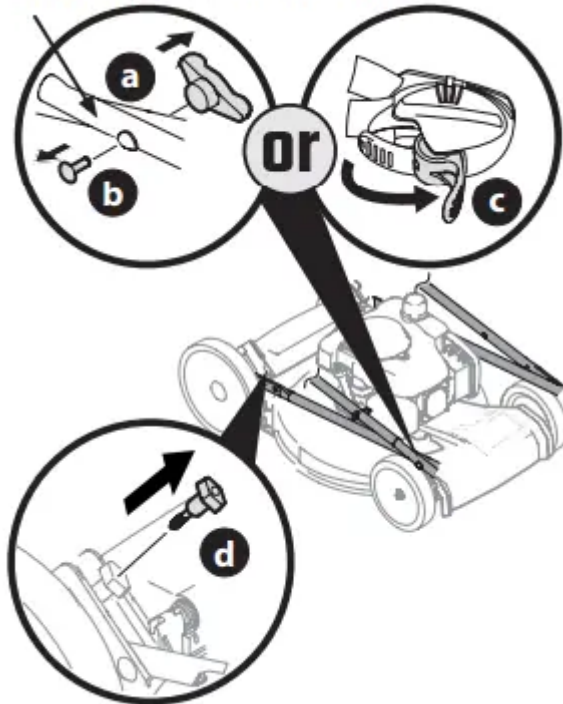

Figure 6
1. Remove knobs or wing nuts (a) and carriage bolts (b) from the handle or if equipped with the EZ-lock handle (c), proceed to STEP 2 (Figure 6). NOTE: The EZ-Fold handle release levers are shipped in the unlocked position.
2. Remove the T-bolts (d) from the handle brackets (Figure 6).